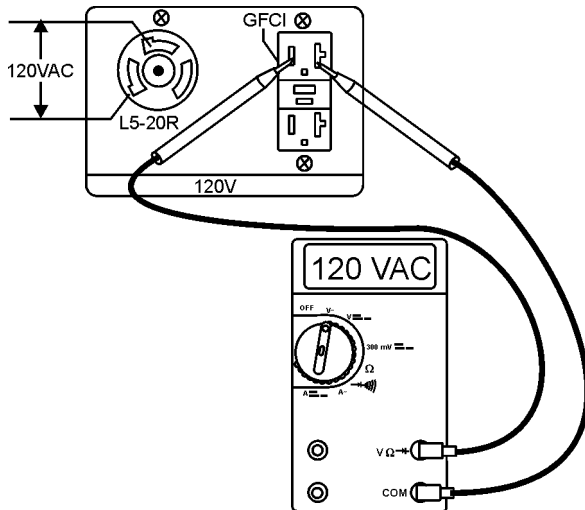

Figure 16. 120 VAC GFCI Receptacle
- If desired, verify with a voltmeter (Figure 16) that 120 VAC is present at the GFCI duplex receptacle and the 120V twist-lock receptacle.